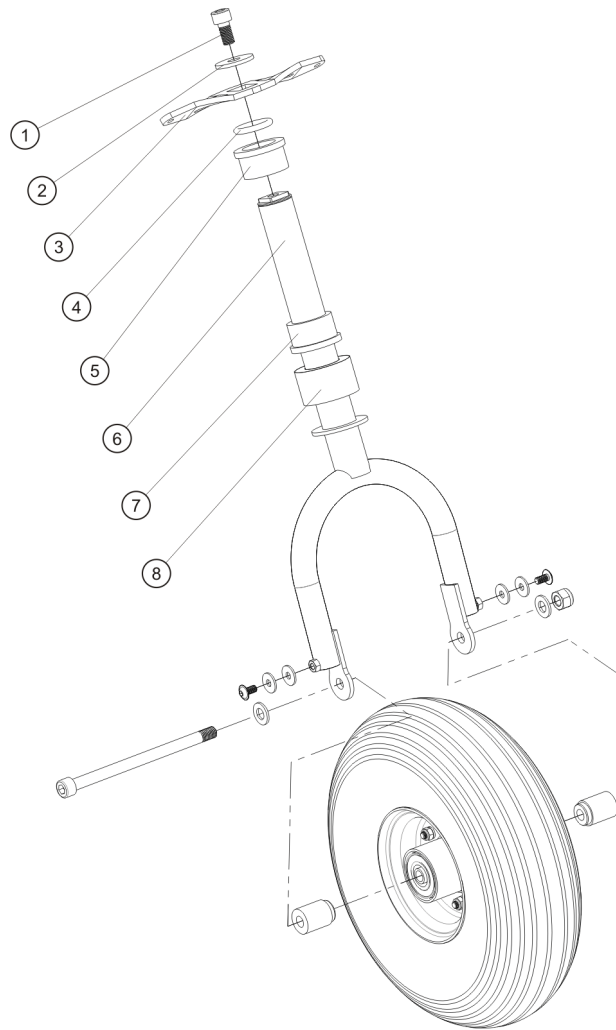

Fig. 1 - Nose gear assembly
- 1    Unscrew and remove nut (Fig. 1, 6) and washer (Fig. 1, 5). Discard nut.